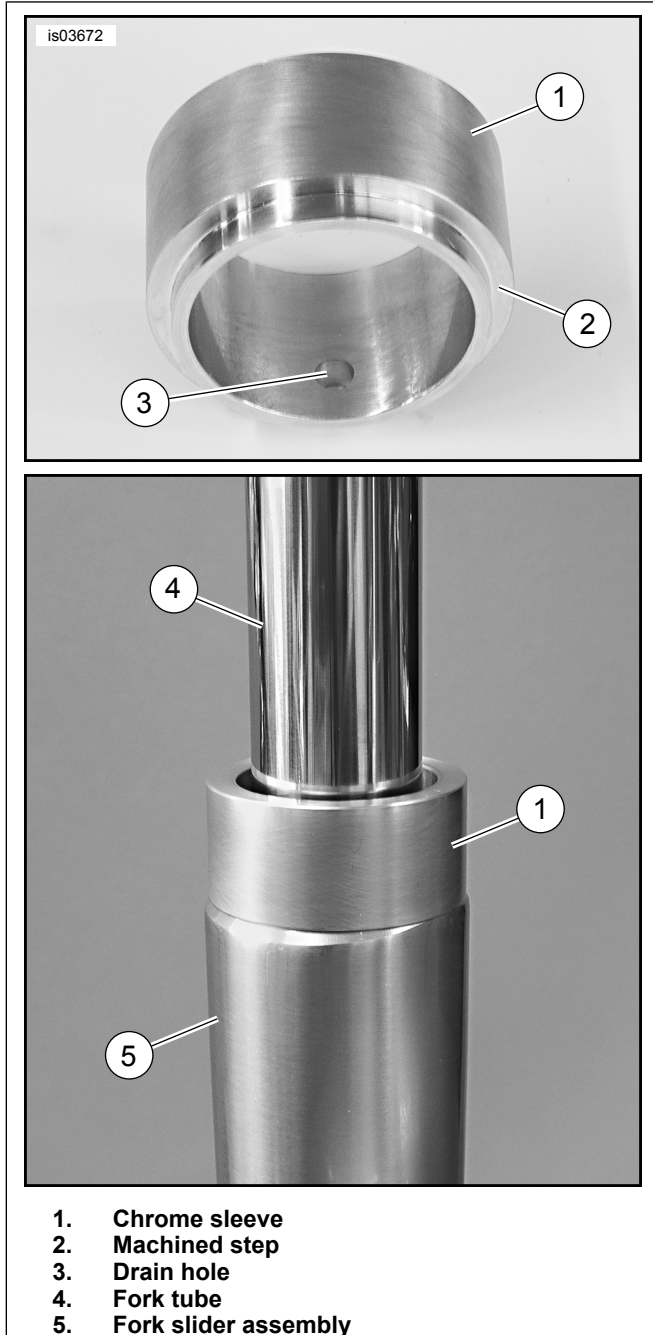

Figure 1. Sleeve Installation
7. See Figure 1. Retrieve one chrome sleeve (1) from the kit. With the machined step (2) pointing down, slide the sleeve down the fork tube (4) until it contacts the fork slider assembly (5).
8. Position the sleeve so that the drain hole (3) will face the rear of the vehicle when the fork is installed. Using the FORK BUSHING AND SEAL INSTALLER (Part No. HD-34634), drive the sleeve into the top end of the fork slider until the sleeve bottoms out against the top lip of the slider.